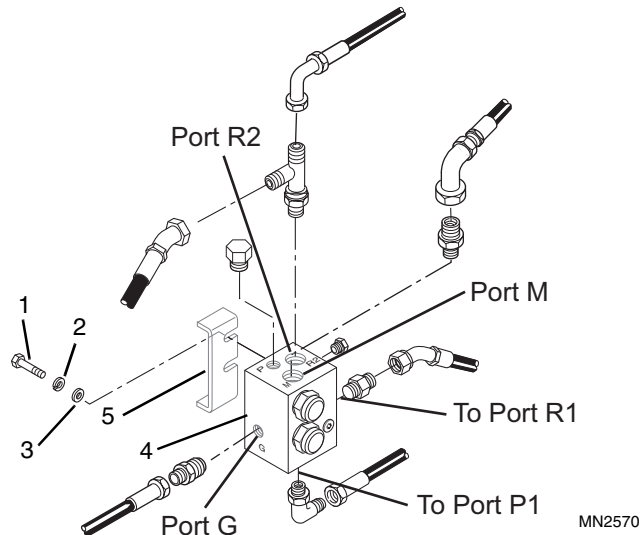

Figure 4-69 High Flow Valve
7. Disconnect and tag hoses (for proper reassembly) from the high flow valve (Fig. 4-69). Cap all hoses to prevent entry of dirt or other contamination into the hydraulic system.
9. Remove the socket head capscrews (Fig. 4-69, 1), lockwashers (2), and flat washers (3) that secure the valve (4) to the mounting bracket (5) on the frame. Place valve on a clean work bench.
1. Note the orientation of all the hydraulic fittings (Fig. 4-69) on the valve housing, and remove the fittings. Remove and discard the fitting o-rings.
1. Install the valve (Fig. 4-69, 4) to the bracket (5) on the frame using the two socket head capscrews (1), lockwashers (2), and flat washers (3), and tighten securely.
2. Connect hoses to the high flow valve fittings (Fig. 4-69, Fig. 4-71, Fig. 4-72). Refer to Section 2.8, "Torques" for torque specifications.